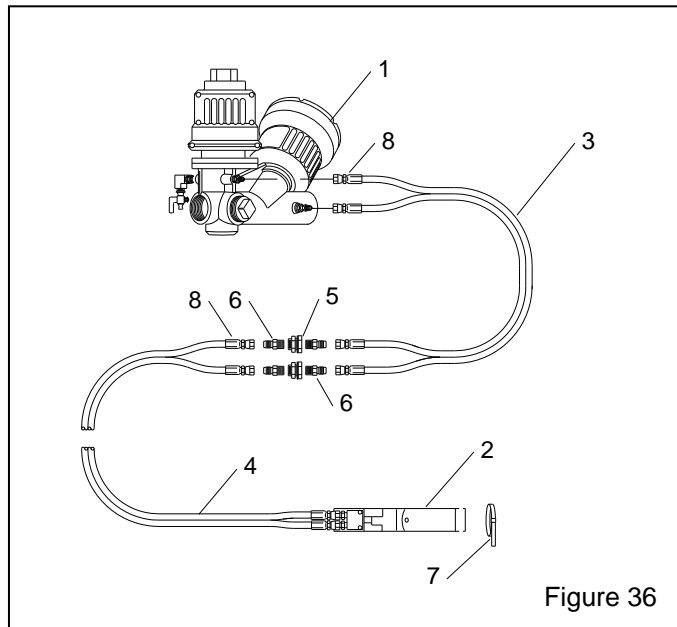

Figure 36
**8.3 Remote Control System Parts, Figure 36**